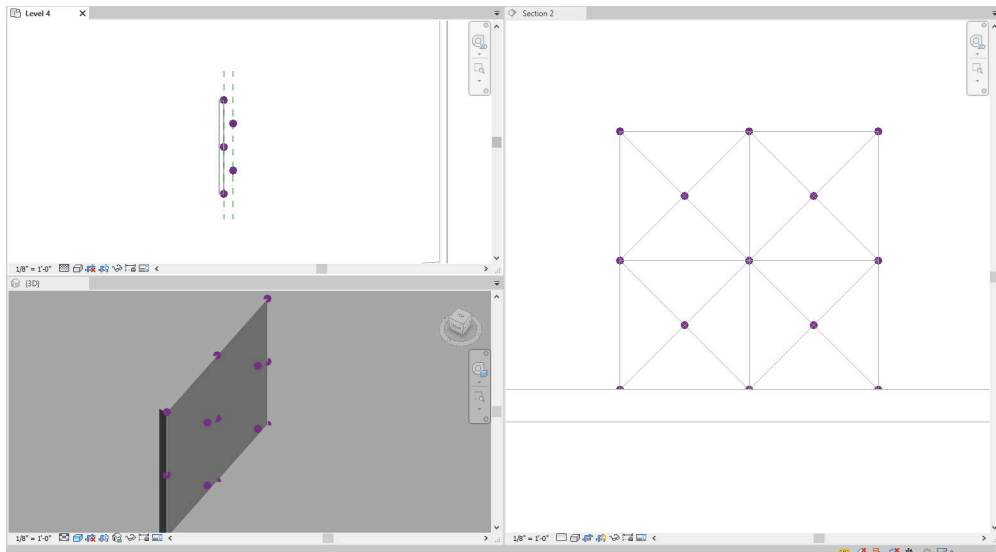

Figure 7.9 (top left) shows point elements on Ref1 and Ref2 and (right) shows points in Section 2 view
16. Draw a second line 6" from the first and change the name to Ref 2 (See Figure 7.9)
18. Select the Point Element tool  as shown in Figure 7.9
21. Place an element point at the corners of each square as shown in Figure 7.9
23. Place an element point at the center intersection of each square as shown in Figure 7.9